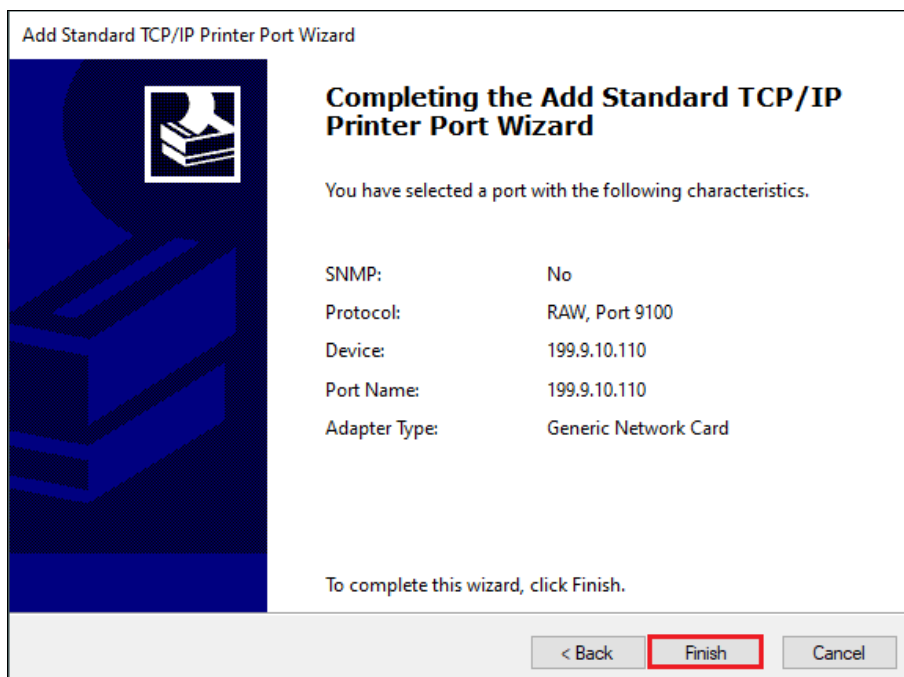

Figure 2-45 Complete adding Standard TCP/IP Printer Port
8. Windows will automatically detect the TCP/IP port. Click “Finish” to complete adding Standard TCP/IP Printer Port, as shown in Figure 2-45.